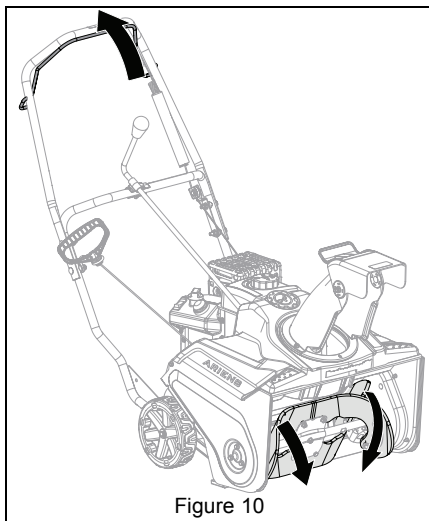

Figure 10
2. Engage auger control lever to clear snow and move unit forward. Release bar to stop augers and unit. See Figure 10.